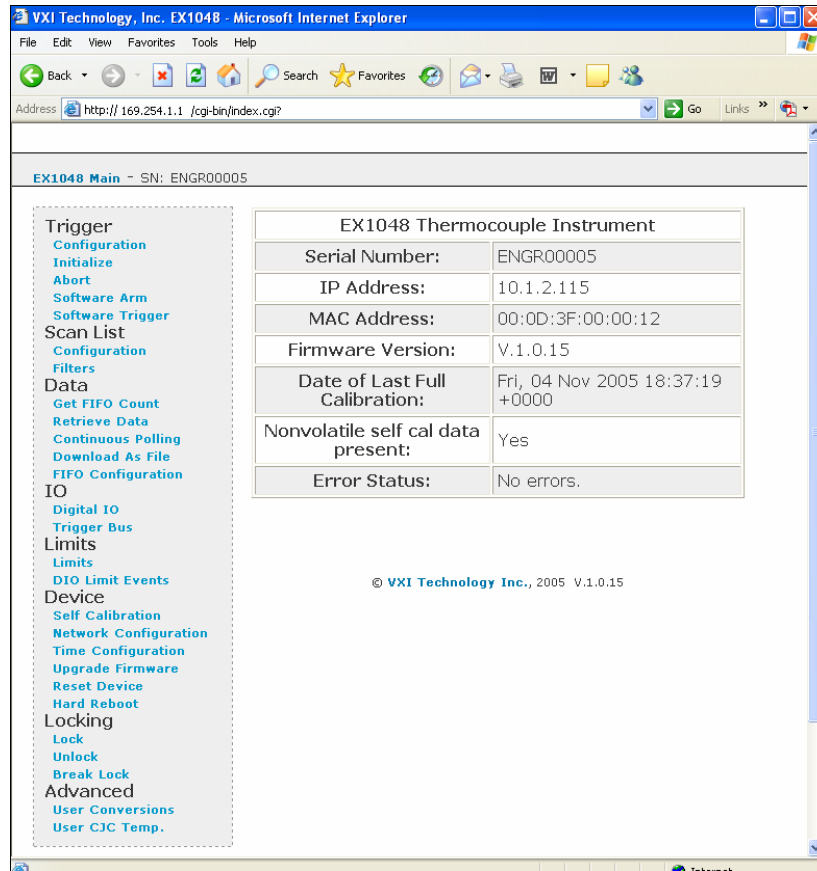

FIGURE 1-8: EX1048 MAIN WEB PAGE
- 2) Type the TCI/IP address obtained in the **Determining the EX1048 TCP/IP Address** section in the browser address field. Press **Enter**. The EX1048 main web page will be displayed (see Figure 1-8).